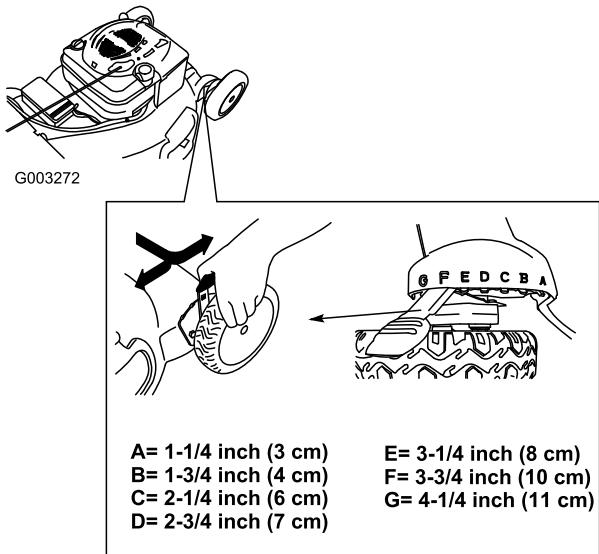

Figure 14
**Note:** To raise the mower, move all 4 cutting height levers forward; to lower the mower, move them all rearward (Figure 14).